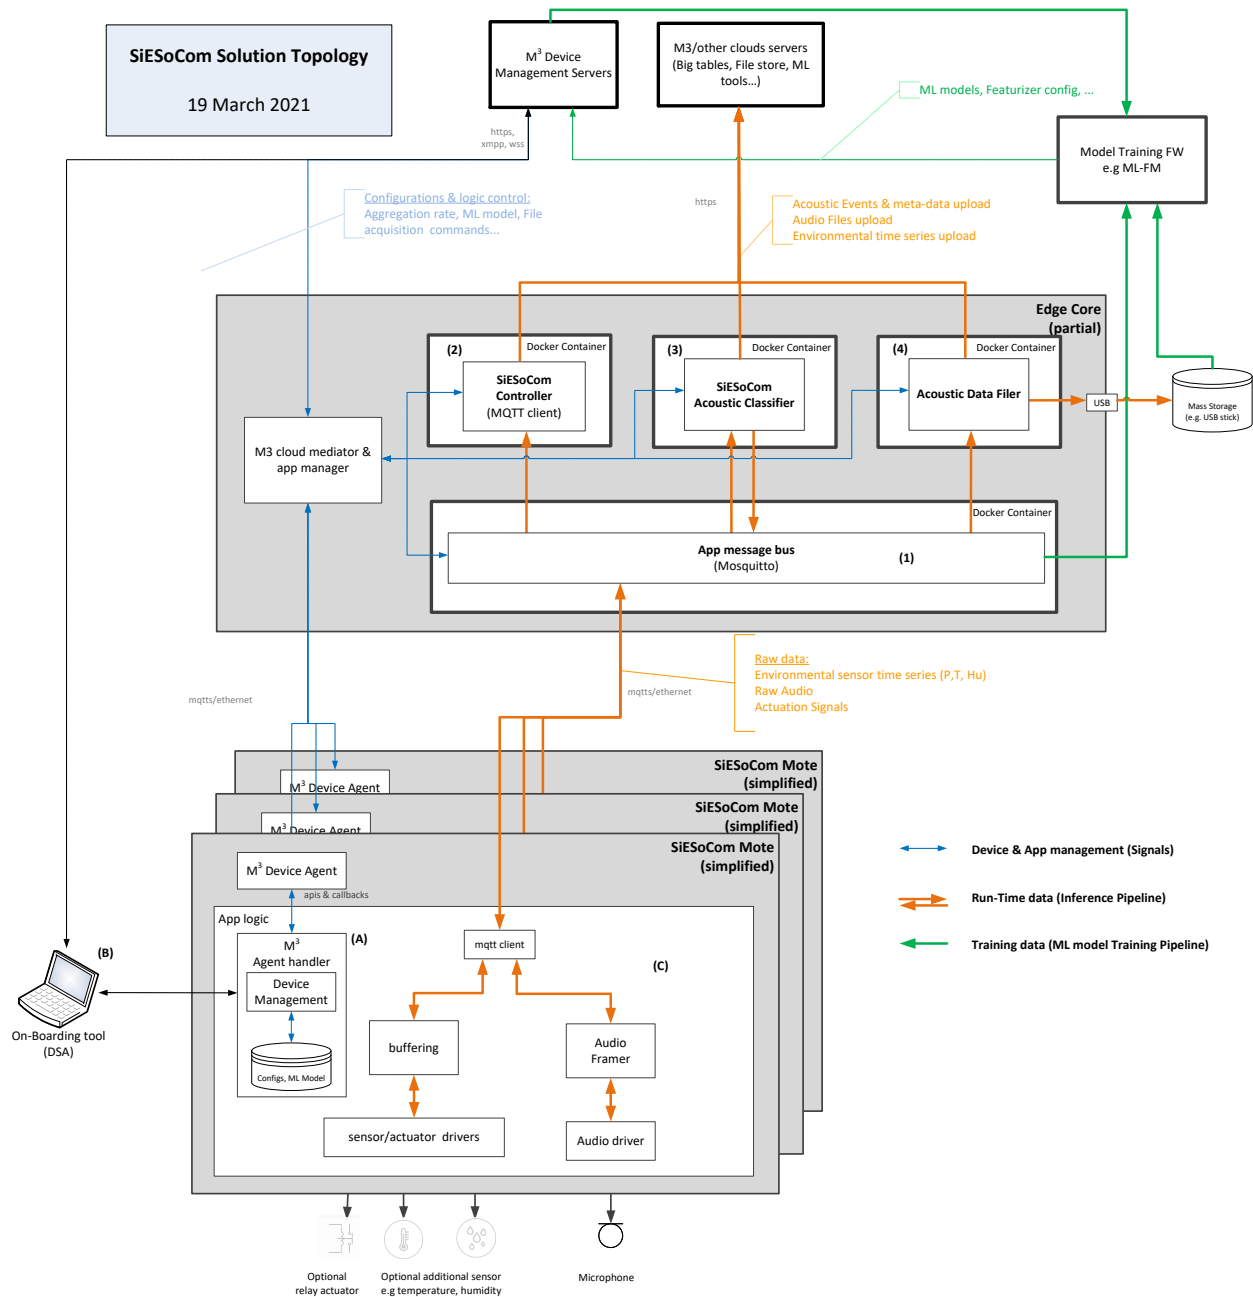

Fig 1: M3 for SiESoCom partitioning
The device management data path (in blue on fig 1 below) is used to commission, initialize and administrate the devices and gateways. This data path is supported by an M3 agent that is integrated into the software of the devices , the gateways and the containerized applications.
The actual user data (in this case raw acoustic data and time series) shall be routed to the M3 application data store and possibly to Siemens Data Lake via a custom data path. (in orange on fig 1 below). This data path is supported by containerized edge services and applications.
- (A) **M3 agent and its handler:** This component accepts cloud configurations and operation requests via the device management path (in blue in fig 1). The SiESoCom sensor shall be modeled in M3 cloud in terms of input configurations, output configurations and managed operations. The agent is provided as a compiled library for the target hardware.
- (B) **M3 device on-boarding tool:** The secure device management of M3 solution requires the mote hardware to be on-boarded using a dedicated/secured M3 tools: Device Setup Application (DSA). This DSA tools securely connects to both the mote using either a serial link or a TCP socket (local IP address/port 9005) and to the M3 backend using operator credentials, possibly using 2FA. Once this secure bridge is established, DSA injects initialization data and credentials into the device.
- (C) **Mote application logic:** In this topology, the mote application role is mostly to acquire and up-stream acoustic frames and, optionally sensor time series e.g. temperature, humidity... The mote application logic is therefore limited to acoustic data framing and time series acquisition.